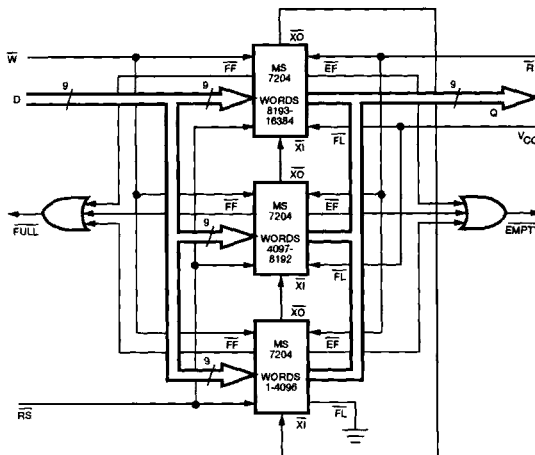

Figure 5. Diagram of a 16384 x 9 FIFO in Depth Expansion Mode
2. All other devices in the Daisy Chain must have the FIRST LOAD (FL) control signal tied to V_{CC} in the inactive-high state.
3. The EXPANSION OUT (\overline{XO}) pin of each device must be connected to the EXPANSION IN (\overline{XI}) pin of the next device as shown in Figure 5.